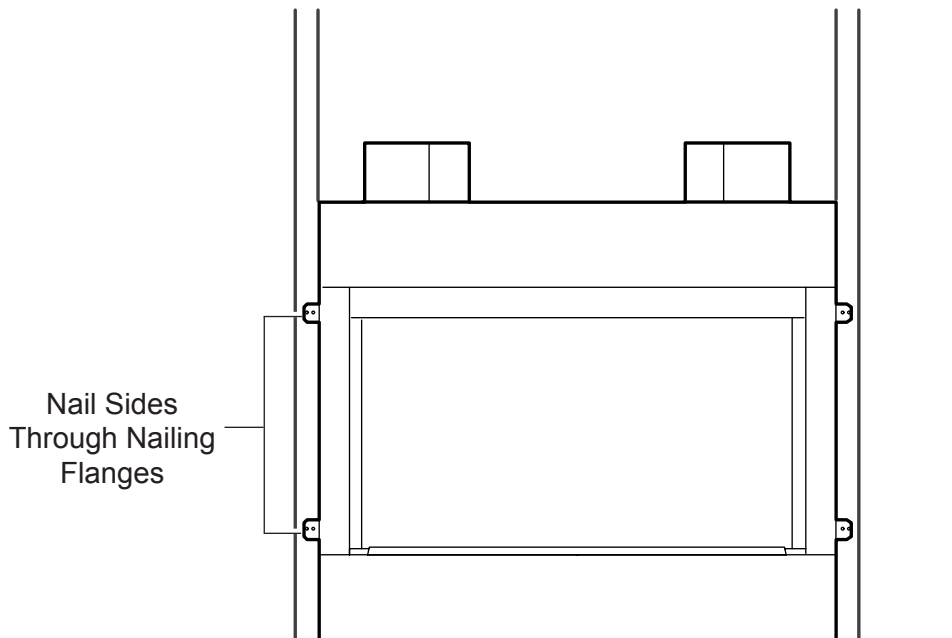

Figure 15 - Location of Nailing Flanges
4. Anchor firebox to the side framing members using 8d nails or other suitable fasteners. *See Figure 15.*